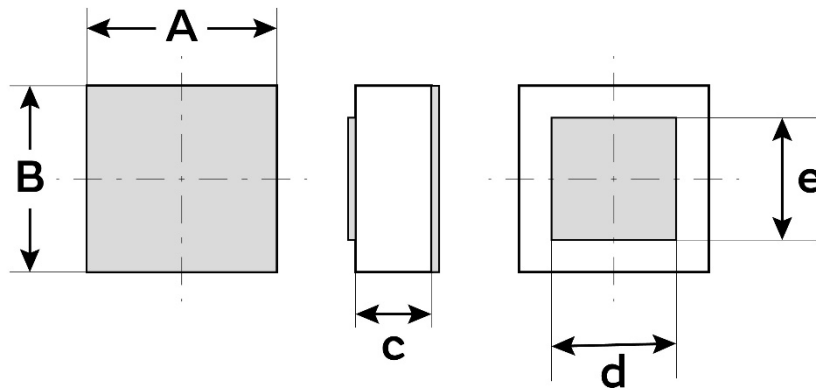

Figure 9 - Package outline drawing
- (1) Other film frame carrier are possible on request
(2) Au = TiWAu (0.3µm) / Au (3µm)
(3) Refer to Figure 9